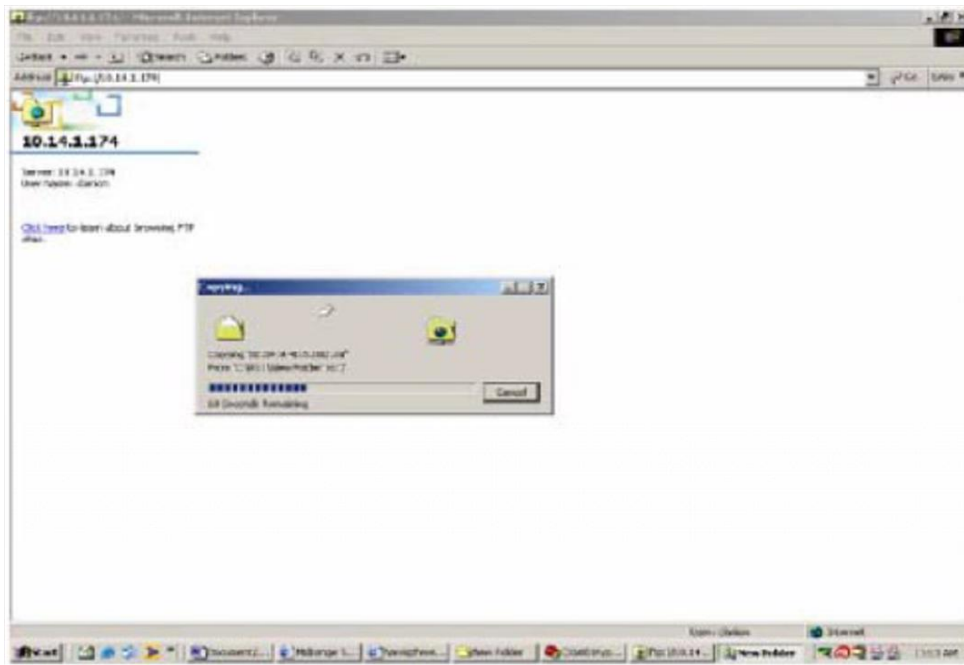

Figure 9 Browser file transfer display
22. [] The file is being transferred as shown in Figure 9 above.